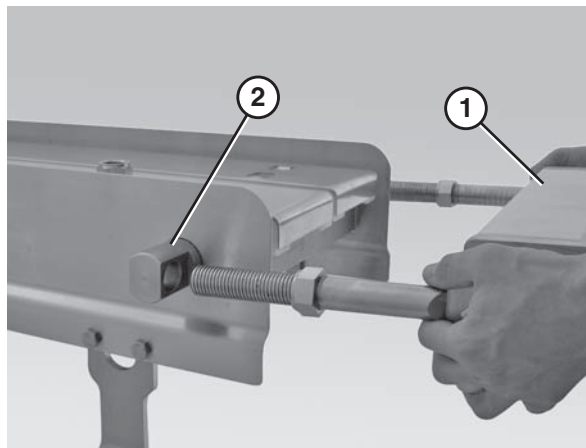

Figure 64
2. Slide the nose bar tail assembly (Figure 64, item 1) out of the take up blocks (Figure 64, item 2).